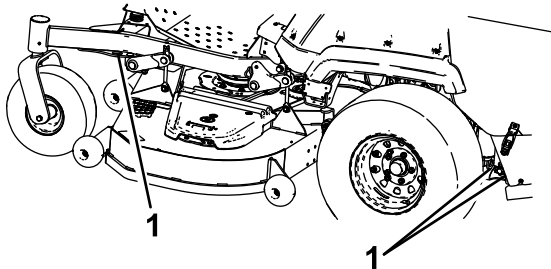

Figure 35
- Securely fasten the machine to the trailer or truck with straps, chains, cable, or ropes. Only use the designated tie-down locations on the mower (Figure 35). Use these locations even when transporting the mower with an attached accessory. Using non-designated locations may cause damage to the mower and/or attachment.